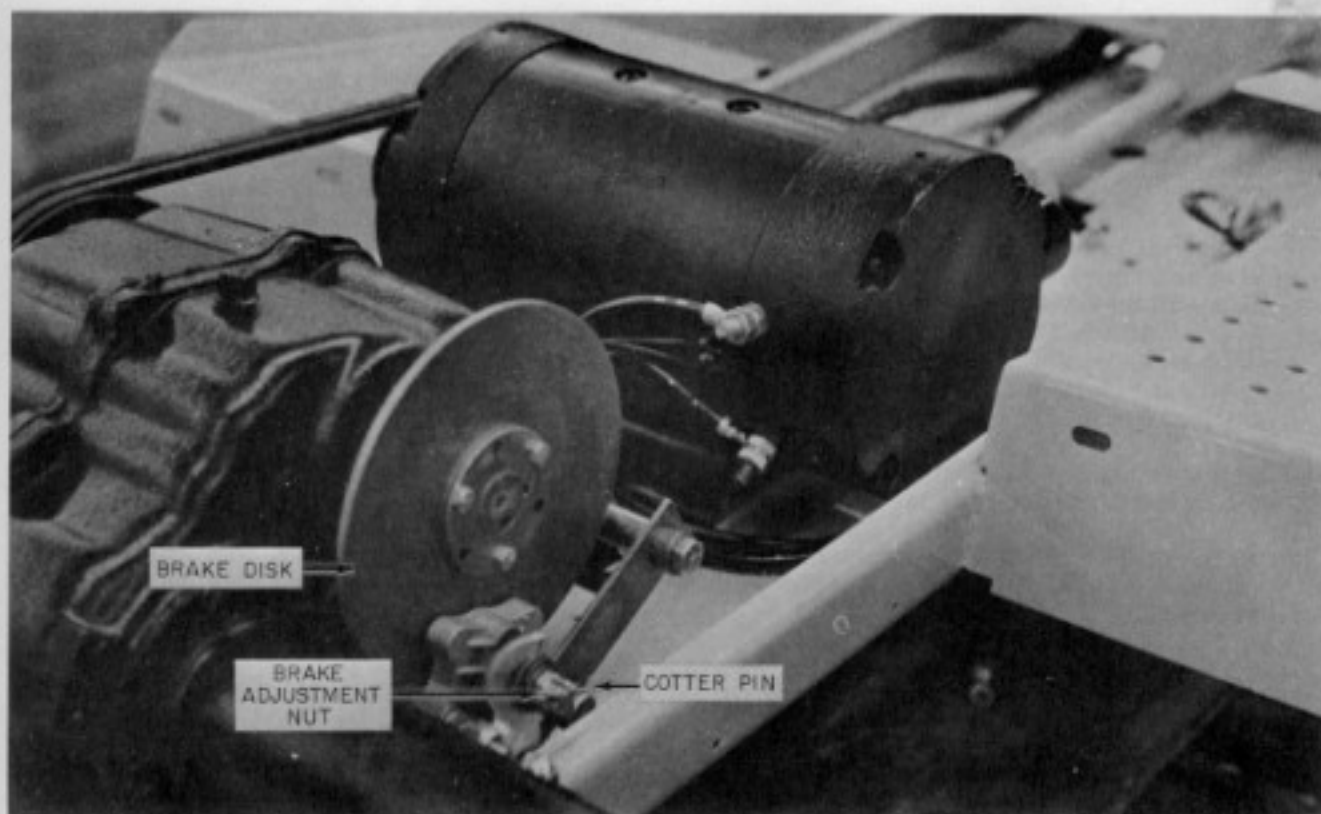

Fig. 1-16 Die-Cast Caliper Brake
4. Remove the cotter pin that locks on the brake adjustment nut (castle nut). Refer to Fig. 1-16.